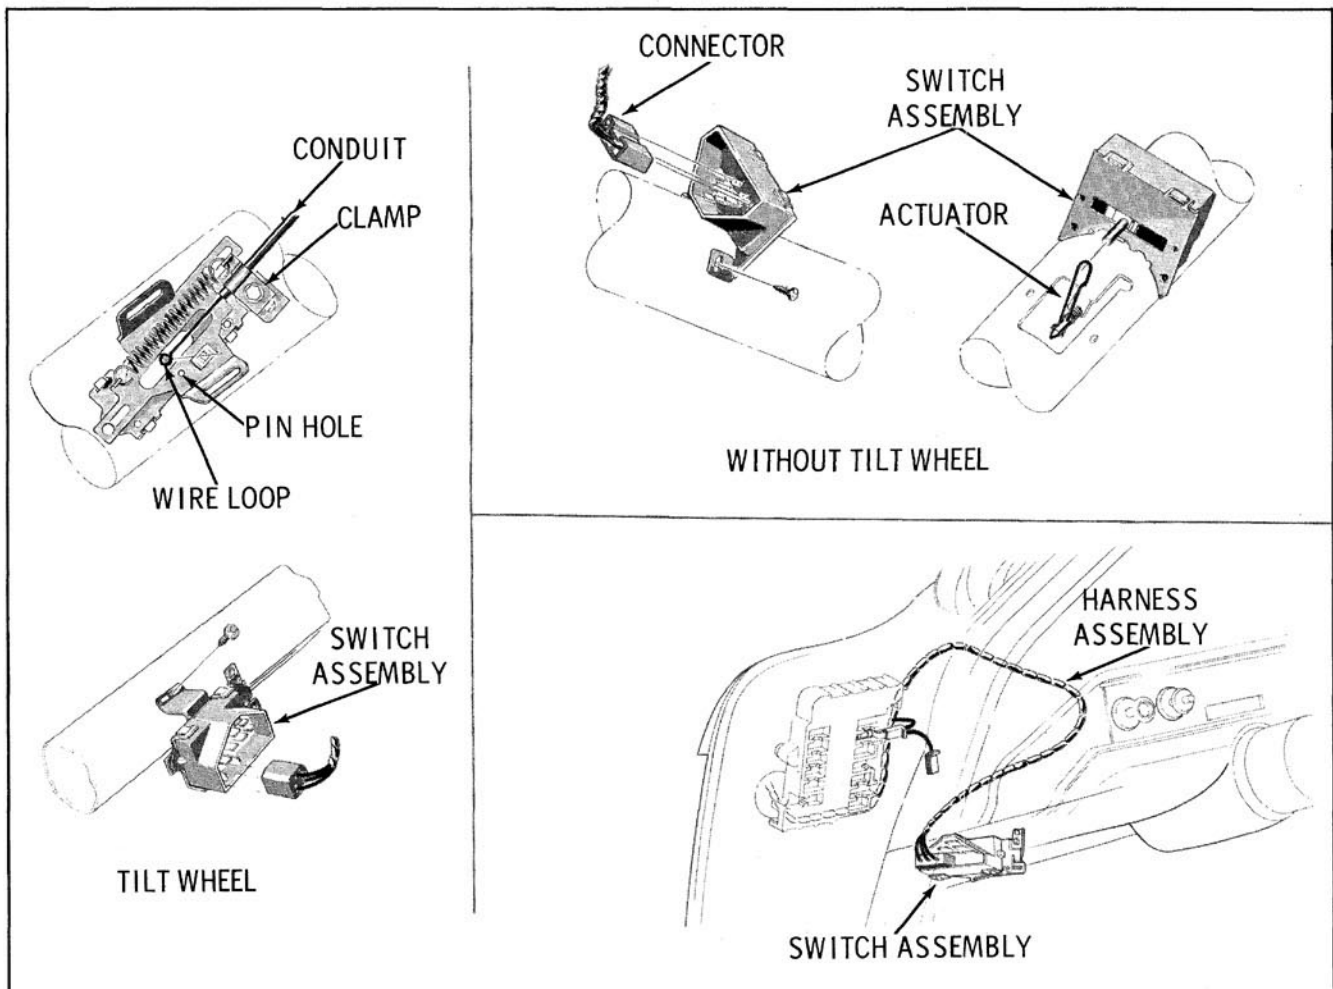

Fig. 13-86 Turn Signal Switch Adjustment
To adjust the turn signal switch, loosen the switch attaching screws, and with the turn signal lever in the neutral position, shift the switch until the operating pin is in the center detent. (Fig. 13-86) Tighten attaching screws and check operation of turn signals.
4. Insert a .090" gauge pin in the pin hole then tighten the control cable clamp. Remove the gauge pin. (Fig. 13-86)